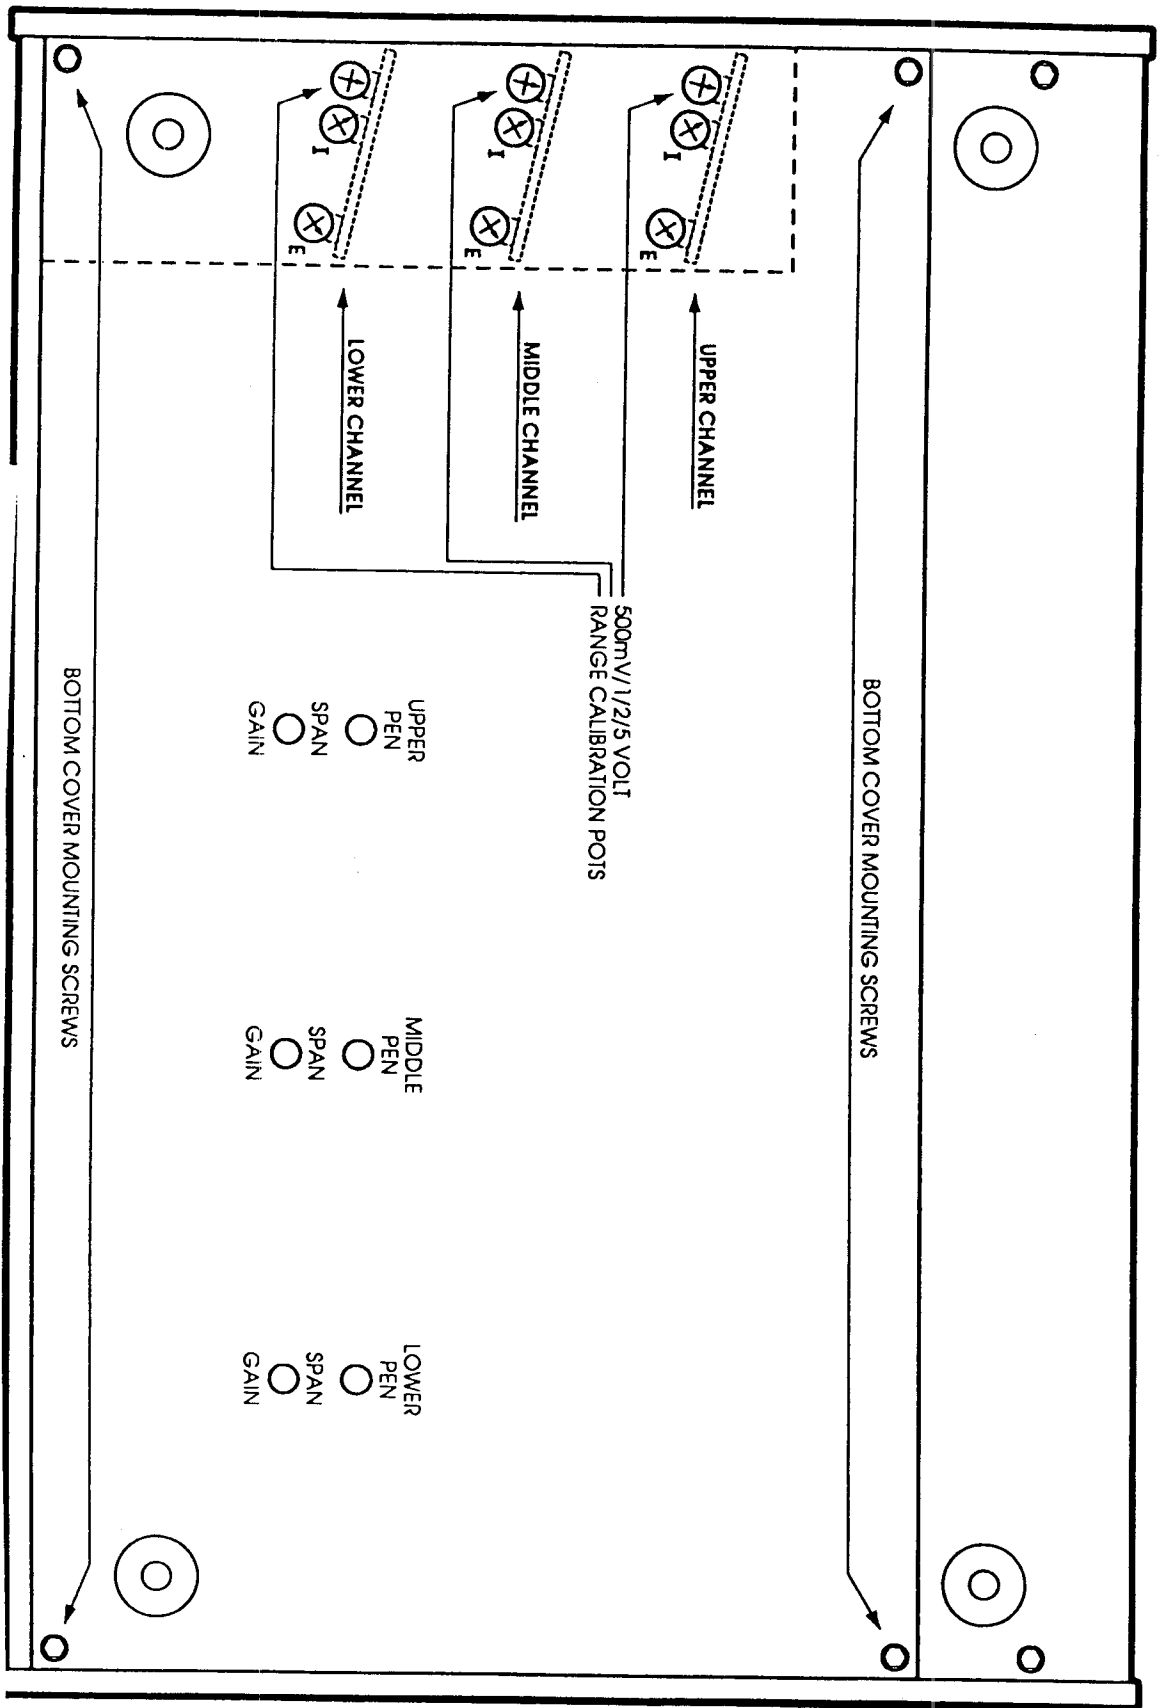

FIGURE 7 - BOTTOM COVER MOUNTING SCREW AND GAIN/SPAN/OFFSET CONTROL ACCESS LOCATION
1. Gain (See Figure 7)
3. Span (See Figure 7)
- I. Adjust the 500 mV/1/2/5V range calibration potentiometer located on PreAmp PCB (See Figure 7) for 100% \pm 0.5% pen deflection.